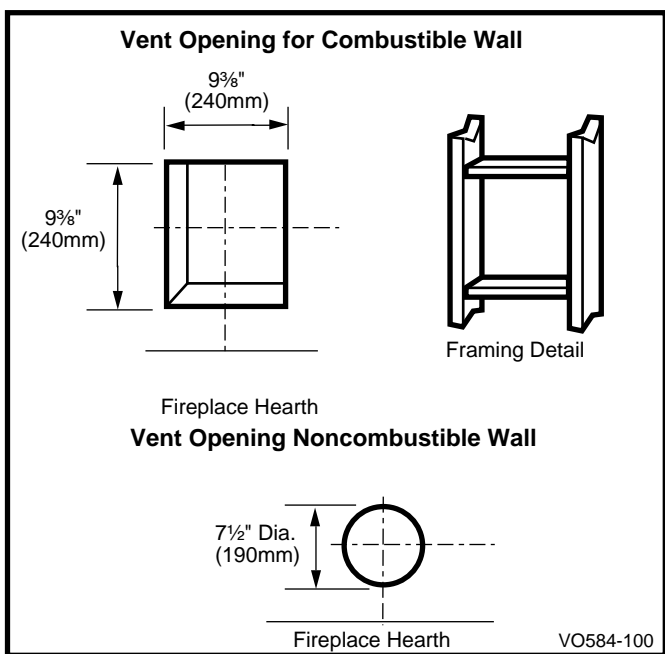

Fig. 29 Locate vent opening on wall.
Locate vent opening on the wall. It may be necessary to first position the fireplace and measure to obtain hole location. Depending on whether the wall is combustible or noncombustible, cut opening to size. (Fig. 29) (For combustible walls first frame in opening.)
Combustible Walls: Cut a 9 $\frac{3}{8}$ "H x 9 $\frac{3}{8}$ "W (240mm x 240mm) hole through the exterior wall and frame as shown. (Fig. 29)
1. Establish vent hole through the wall (Fig. 29)